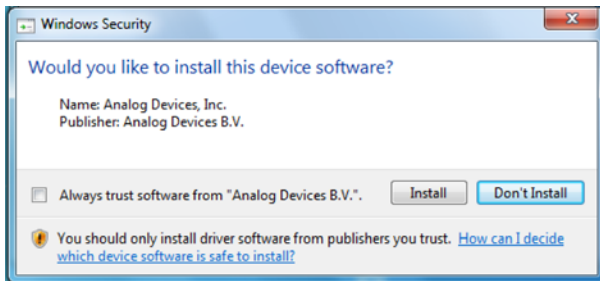

Figure 11. Installation Confirmation Window
3. An installation confirmation window may appear. Click **Install** to confirm driver installation (see Figure 11).